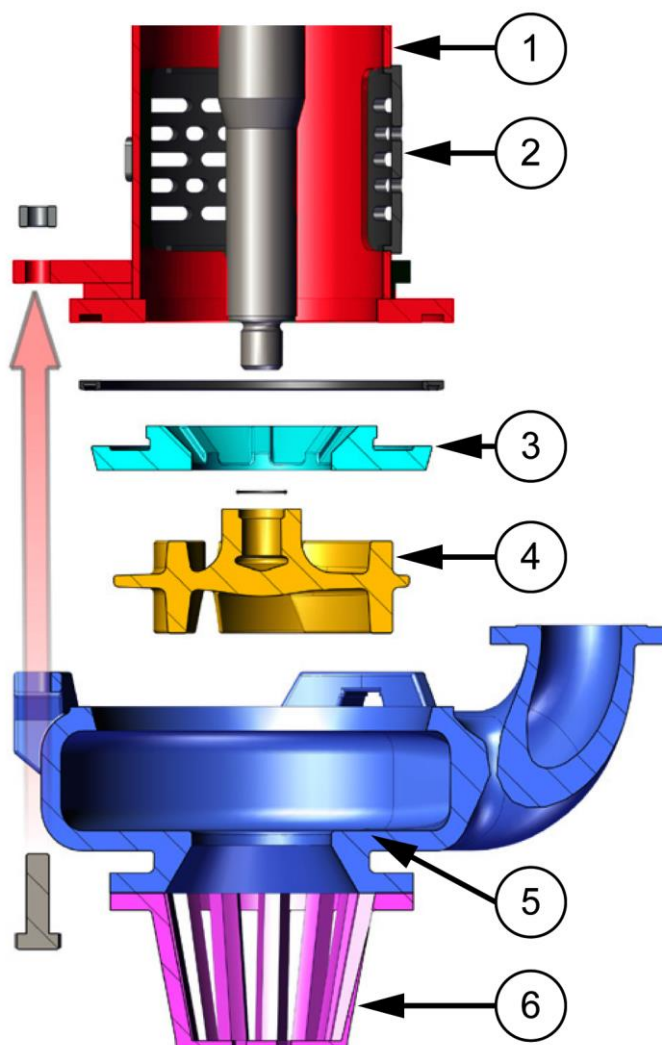

Figure 12. Alignment Fitting Back Liner, Impeller, Casing, and Suction Strainer.
3. Fit IMPELLER O-RING (059) into the groove on the end of the shaft.
5. Screw the IMPELLER (part number as specified on component diagram) onto the shaft. Hold the shaft with SHAFT WRENCH (301) and turn the impeller with a bar between the vanes of the impeller to tighten it on the shaft. Take care when installing elastomer impellers not to damage the elastomer.
6. Position the CASING (012) on the end of the column as shown in Figure 12, aligning the casing discharge neck with the upper discharge pipe mount on the MOUNTING PLATE. Make sure the impeller turns freely. If not, add or remove the SPACERS (086) at the top of the column until impeller just clears the bottom suction of the casing.
7. Fit the three (3) column bolts and tighten evenly. Please reference Table 9 for appropriate torque values.